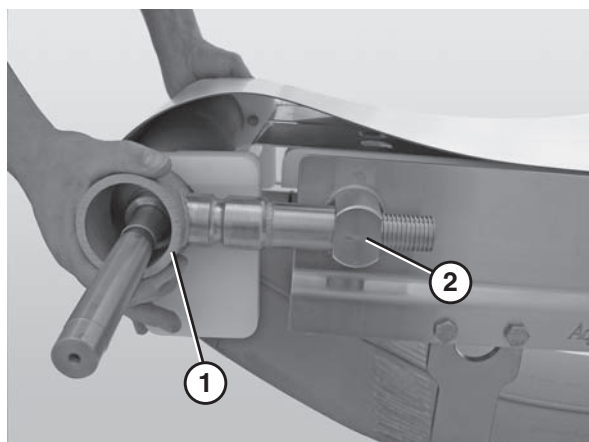

Figure 62
7. Slide the drive tail assembly (**Figure 62, item 1**) out of the take up blocks (**Figure 62, item 2**).